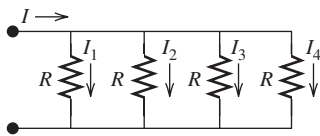

FIGURE P3.27 Circuit for Problem 3.27.
3.27 (A) Find I_1 , I_2 , I_3 , and I_4 in Figure P3.27.